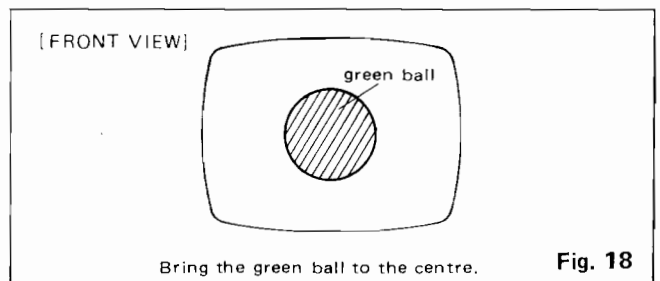

Fig. 18
3. Turn the green cut-off control to maximum and the red and blue cut-off controls to minimum. Then adjust the screen control so that the green ball can be seen best. (Fig. 18)